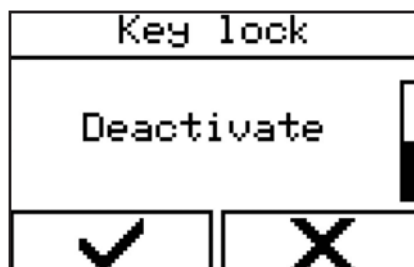

Figure 54 - Deactivating button lock
5. Select the menu item 'Deactivate' (Figure 54).